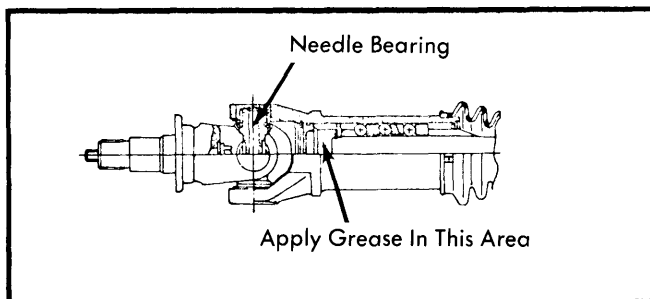

Fig. 6 Drive Shaft Grease Locations
**Reassembly** — To reassemble, reverse disassembly procedure and note the following: Apply grease to points shown in Fig. 6. Install rubber boot and adjust drive shaft length to 13.15" (334 mm). Adjust axial play to within .0008" (.02 mm) by selecting proper size snap ring. Tighten all bolts to specification.